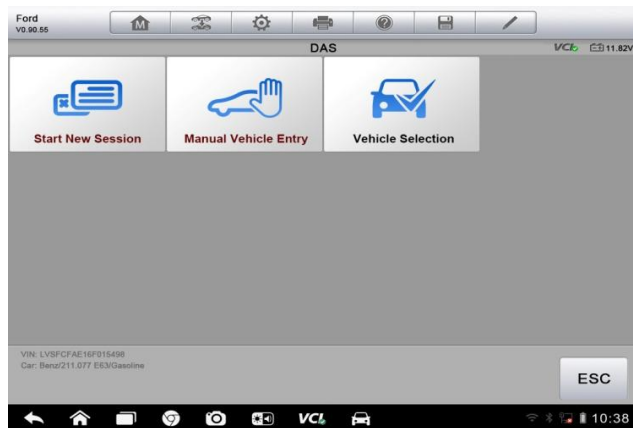

Figure 4-4 Sample Vehicle Selection Menu
4. Select **Manual Vehicle Entry** from the Vehicle Selection Menu. (*Figure 4-4*) A series of information screen displays, tap **Yes** to continue.